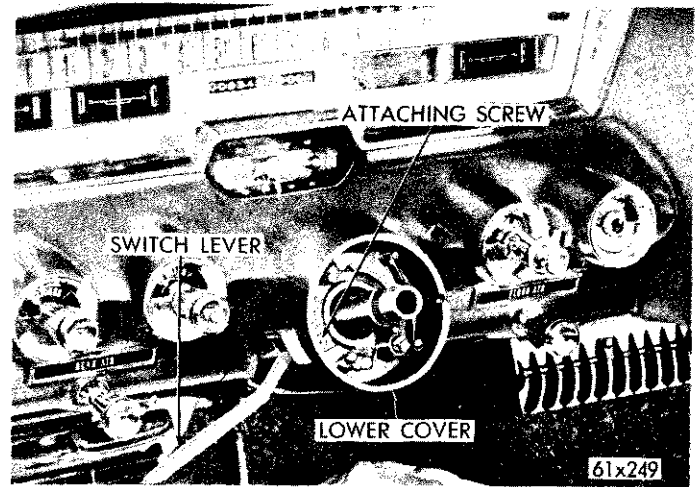

Fig. 17—Directional Switch and Lever—Steering Wheel Removed
(7) Remove the directional switch lever (Fig. 17).
(8) Remove the steering column lower cover.